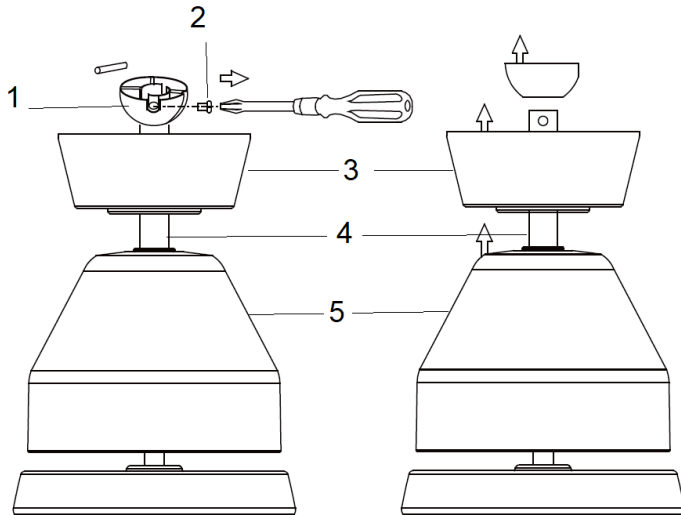

Fig. 4
- Remove the ball joint (1) and dowel pin by loosening the set screw (2). (Fig.4)
- Remove the canopy (3) and the motor housing (5) from the down rod (4). (Fig.4)